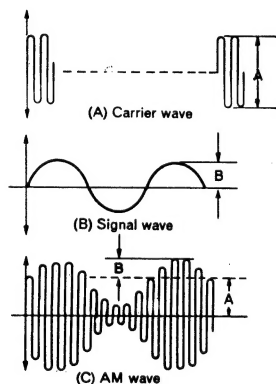
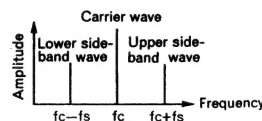

Fig. 1
Fig. 2
When the carrier wave (A) as shown in Fig. 1 is amplitude-modulated by the signal wave (B), the AM wave (C), the amplitude of the carrier of which changes according to the amplitude of the signal wave is obtained. When the carrier wave  $f_c$  (kHz) is amplitude-modulated by the single signal  $f_s$  (kHz), the AM wave contains the frequency component --  $f_c - f_s$  (kHz),  $f_c$  (kHz),  $f_c + f_s$  (kHz) -- as shown in Fig. 2. The bandwidth [  $(f_c + f_s) - (f_c - f_s) = 2f_s$  ] of this frequency is called the occupied frequency bandwidth, and the component  $(f_c - f_s)$  kHz is called the lower side-band, and the component  $(f_c + f_s)$  kHz, the upper side-band. Replacing  $f_s$  by a voice signal, the waveform of the voice signal is very complicated containing various frequency components from 300 Hz to 3,000 Hz, so it results in an AM wave, with very many upper side-band and lower side-band waves between  $\pm 3$ kHz of the carrier wave. The occupied frequency bandwidth is specified as 6kHz in